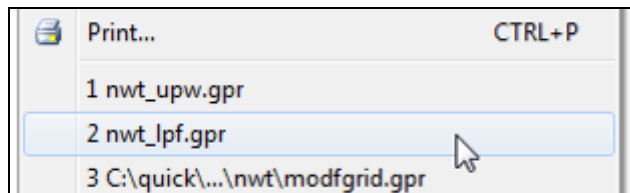

Figure 4 Reopen the nwt\_lpf.gpr model
2. Select “nwt\_lpf.gpr” from the list of recent files at the bottom of the *File* menu (Figure 4).